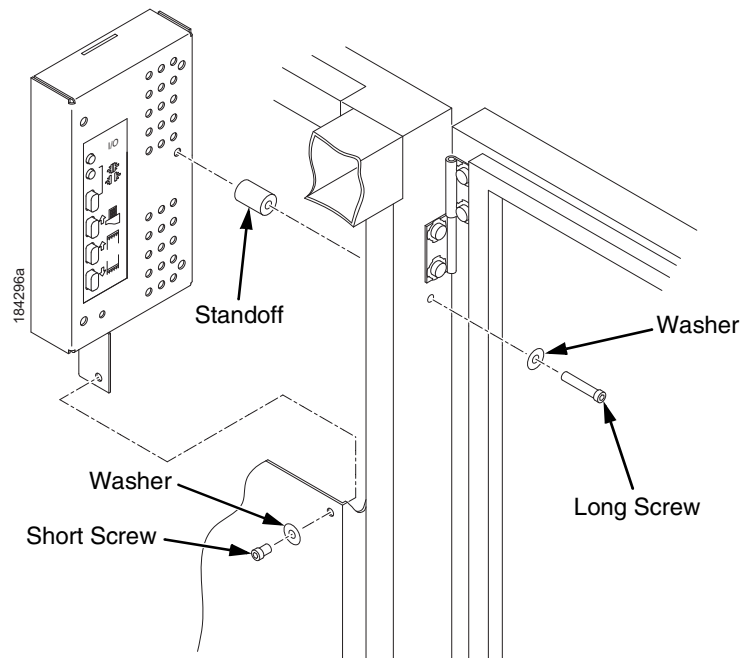

Figure 77. Removing the Stacker Control Panel
13. Remove two screws, washers, and the standoff from the stacker control panel. (Figure 77.)